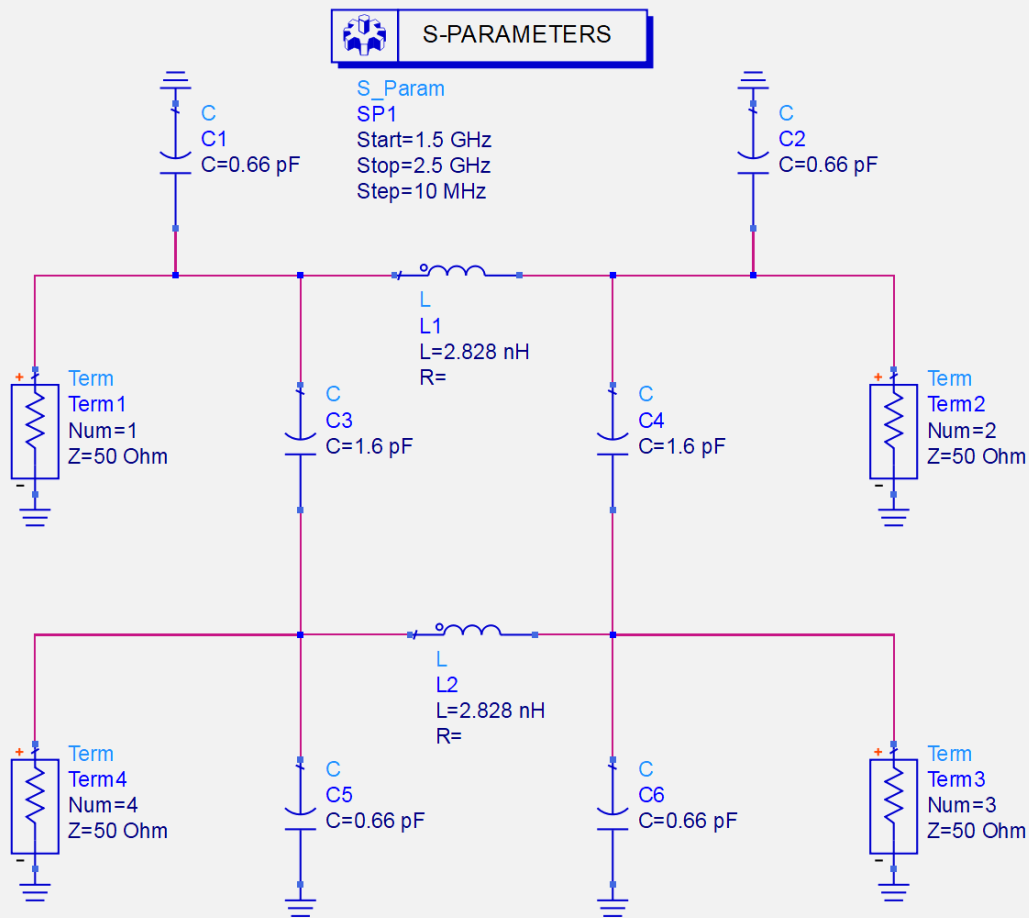

Figure 3. Schematic of the lumped element model
2. From the lumped components library, select the appropriate components necessary for the lumped model. Click the necessary components and place them on the schematic window of PathWave ADS, as shown in Figure 3.